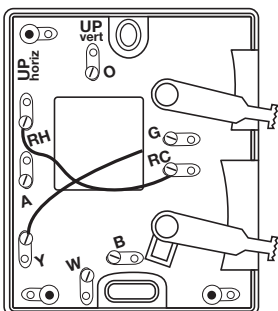

**FIGURE 1
- Attach front cover, Figure 1, to base.